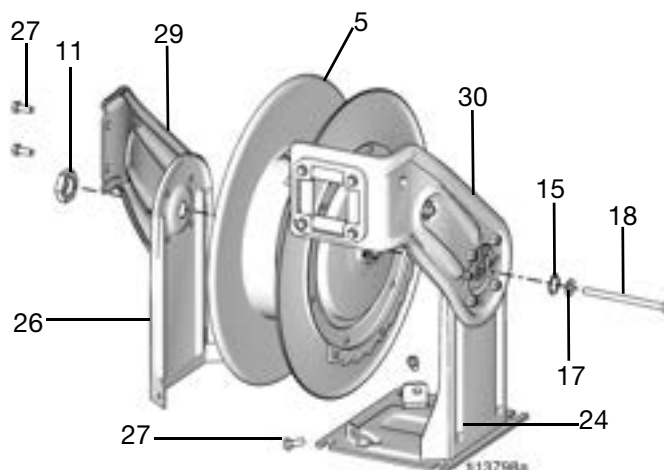

FIG. 21
5. Remove the large nut (11) (FIG. 21).
6. Remove the two screws (27) holding the pedestal (26) to the base (24) and the two screws (27) holding the guide arm (29) to the guide arm (30) (FIG. 21).
7. Completely remove, as one piece, the guide arm (29) and pedestal assembly (26) and set it aside for re-installation on the new spool (FIG. 21).
8. Lay the hose reel on its side to easily access the guide arm (30) and pedestal (24).
9. Remove the long bolt (18) and washers (15 and 17) (FIG. 21).